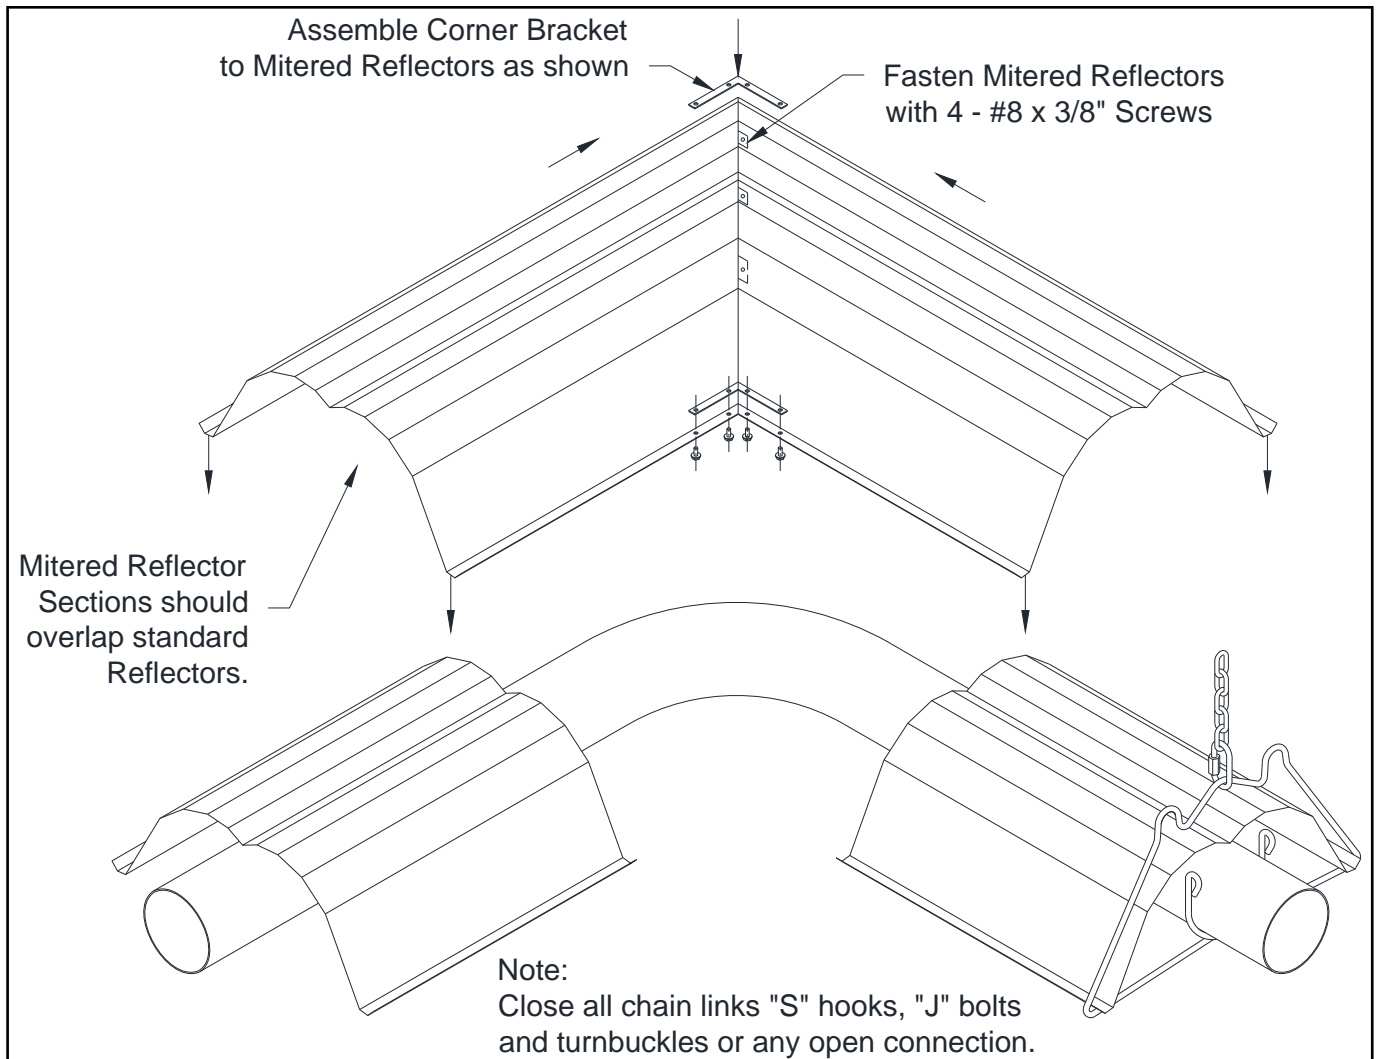

Figure 19: Mitered Reflector Installation
Note: Elbows or U-tubes are typically installed without reflectors. To reduce the above clearance to combustibles distance use miter reflectors (see Figure 19) and refer to Clearance to Combustibles information.
- If used, install the Mitered Reflector as shown below (Figure 19).